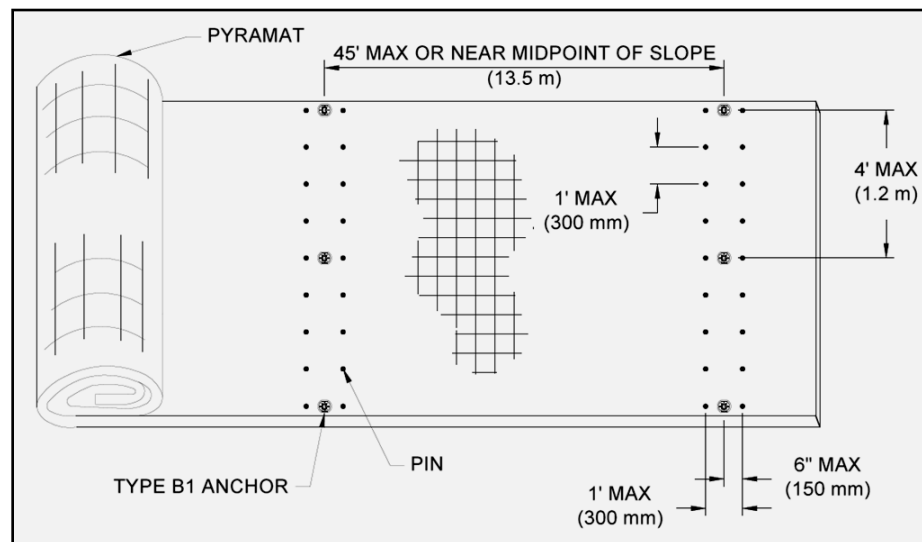

Figure 23: Simulated Check Slot
- For channel bank heights or channel bottom widths greater than 45 ft (13.7 m), install simulated check slots. This method includes placing two rows of pins 12 in (300 mm) apart on 12 in (300 mm) centers and one row of PDEAs between the rows of pins on 4 ft (1.2 m) centers at 45 ft (13.7 m) maximum intervals or across the midpoint of the slope for slope lengths less than 60 ft (18.2 m) (Figure 23).